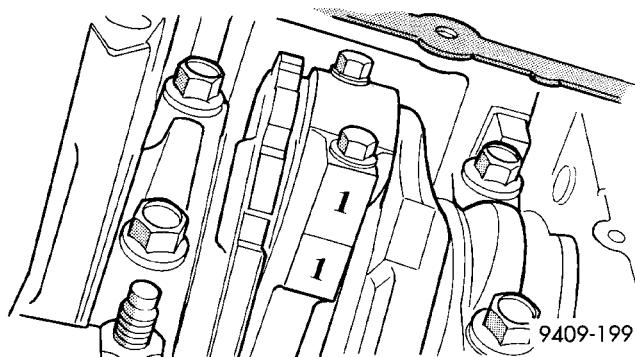

Fig. 63 Identify Connecting Rod to Cylinder - Typical
(6) Pistons and connecting rods must be removed from top of cylinder block. Rotate crankshaft so that each connecting rod is centered in cylinder bore.
(7) Using a permanent ink or paint marker, identify cylinder number on each connecting rod cap (Fig. 63).